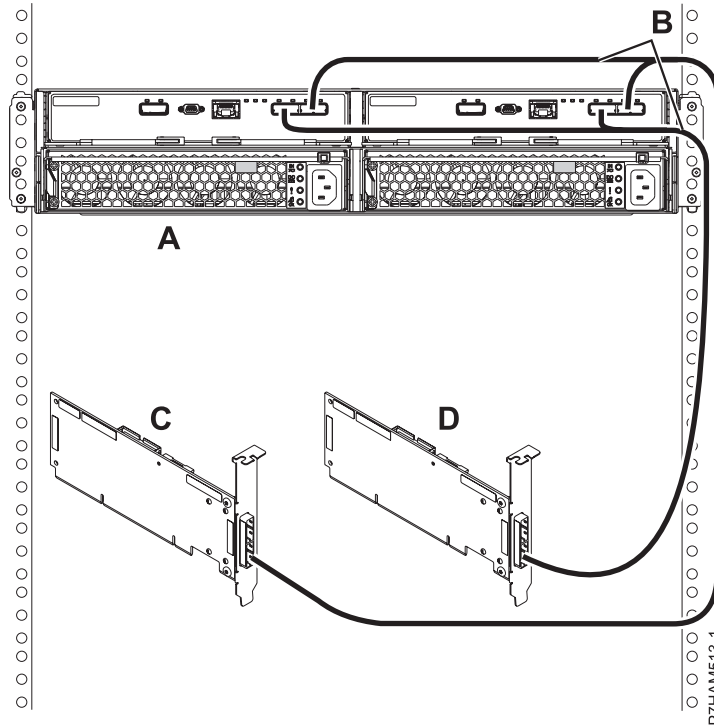

Figure 41. Mode 2 connection of one 5887 disk drive enclosure by using YO cables to two independent SAS adapters
15. Perform the mode 2 connection of one 5887 disk drive enclosure (**A**) by using YO cables (**B**) to two independent SAS adapters as shown in Figure 41 on page 82.